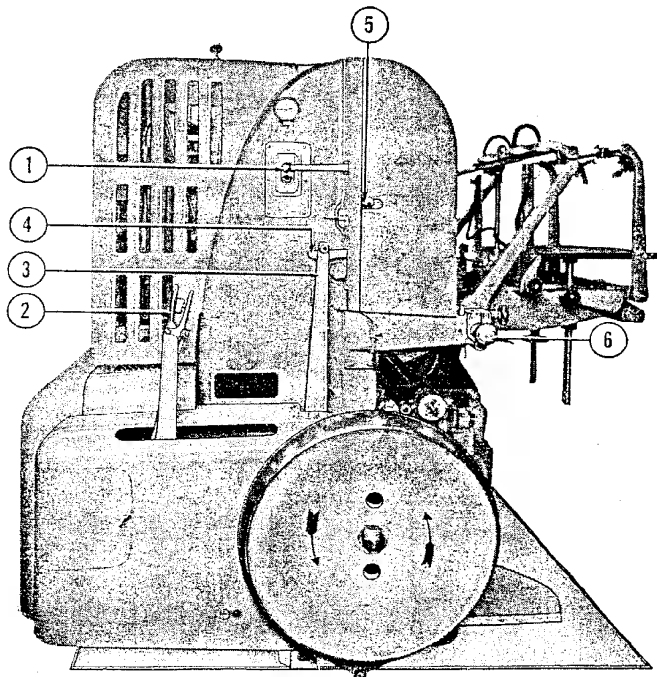

Figure 10—Operating Controls
2. OPERATING CONTROLS. (See figure 10.)—The following information identifies and explains the function of all controls used during press operation.
a. **START-STOP PUSH BUTTONS.**—The “START-STOP” push buttons (1) control the starting and stopping of the press motor.
b. **BELT-TIGHTENER LEVER.**—The belt-tightener lever (2) is used during press operation to start and stop the press while the motor continues to operate. When the lever is released (pulled to the left) the press drive belt is disengaged from the pulley and braking is applied to the press flywheel.
c. **BELT-TIGHTENER TRIP AND AUTO-STOP LEVERS.**—The belt-tightener trip and auto-stop levers (3) and (4) automatically release the belt-tightener lever when sheets are not being fed and automatic stop control knob (5) has been turned to its up position. After tripping occurs, the belt-tightener trip and auto-stop levers are automatically re-engaged.
d. **FEEDER CONTROL AIR VALVE HANDLE.**—The feeder control air valve handle (6) controls the operation of the feeder air valve which supplies suction to the separator shoes. When handle is pushed in, suction is supplied to shoes for sheet pick-up.